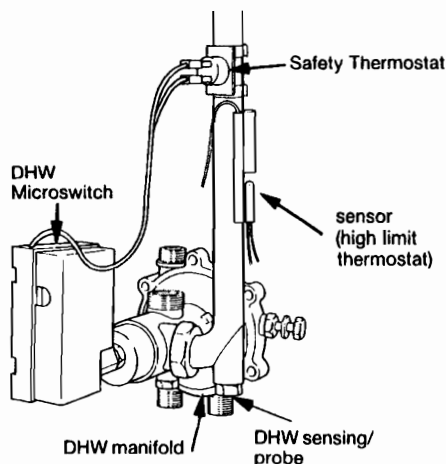

Fig. 41
Refer to fig. 41
8.22.27 Unscrew sensing probe from bottom of main flow tube. (fig. 41)